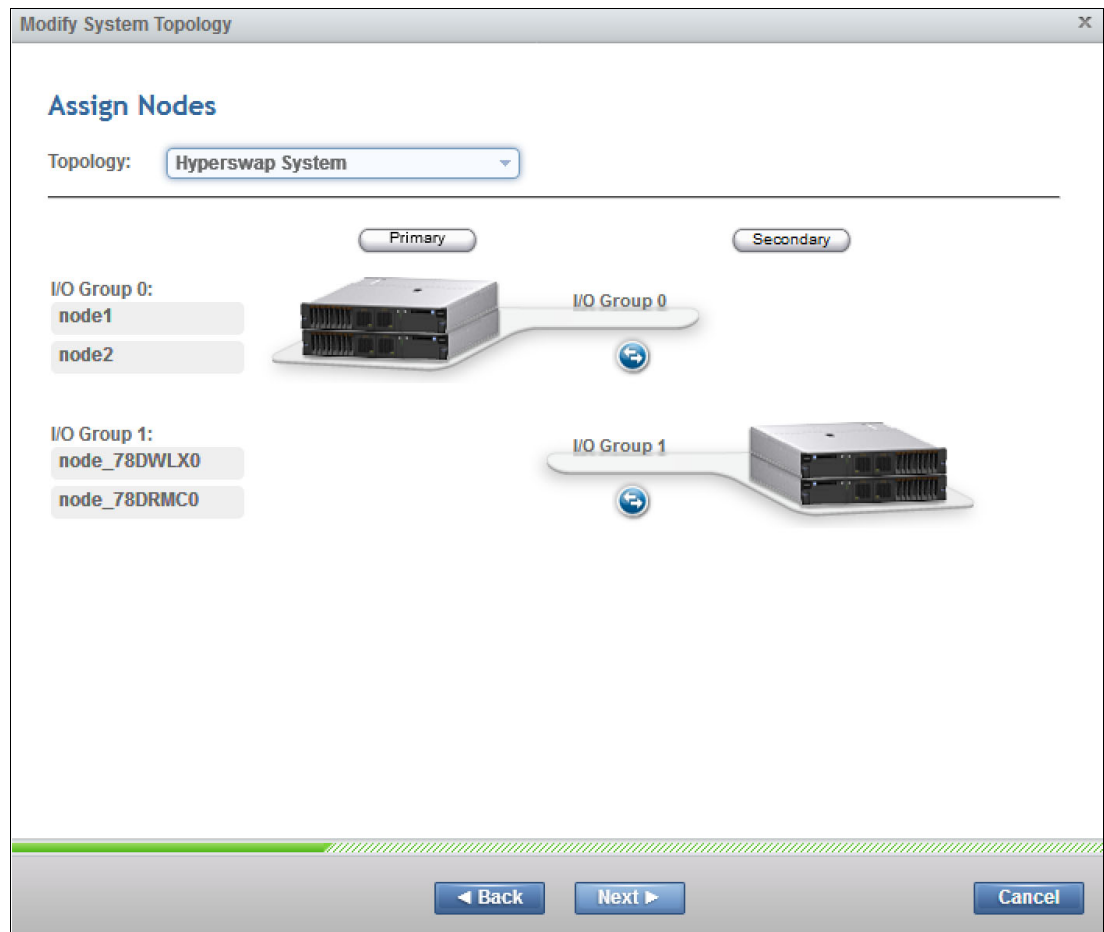

Figure 4-36 Assign nodes
3. After site names are defined, assign the topology type and assign nodes to each site. Figure 4-36 shows selecting the HyperSwap topology and assigning nodes to each site.